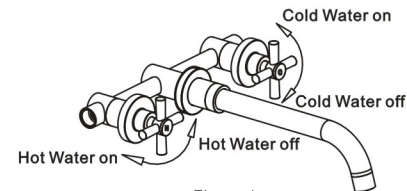

Figure 1
1. Shown as Figure 1, the left and right handles will control the hot water and cold water supply respectively. Turn the handle on the left side in a clockwise direction, increasing the hot water flow gradually; turn the handle on the right side in a counterclockwise direction, increasing the cold water flow gradually.